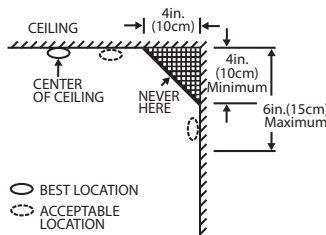

Figure 4:
- Install smoke detectors as close to the center of the ceiling as possible. If this is not practical, put the detector on the ceiling, no closer than 20 inches (50 cm) from any wall or corner, as shown in Figure 4
- If ceiling mounting is not possible and wall mounting is permitted by your local and state regulations, put wall-mounted detectors between 4 and 6 inches (10 ~ 15 cm) from the ceiling as shown in Figure 4
If it is not practical to mount the detector on the center of the ceiling, put the detector on the ceiling no closer than 50 cm to any wall or corner as shown in Figure 4
- Dead air spaces are often at the top of a peaked roof, or in the corners between ceilings and walls. Dead air may prevent smoke from reaching a detector. See Figures 4 and 5 for recommended mounting locations